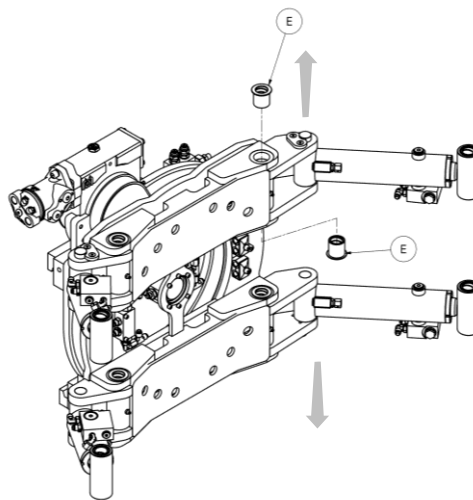

Figure 4
- After removing the jaws, remove all bushes “E” present Figure 4.